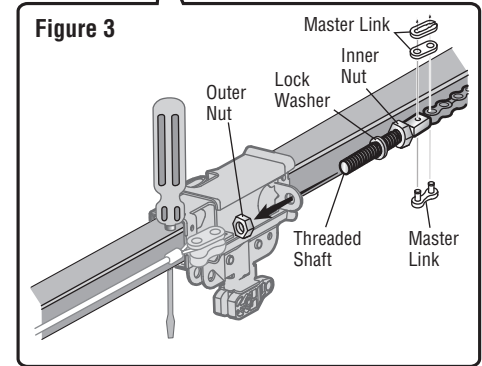

Figure 3
6. Insert the trolley threaded shaft through the hole in the trolley. Be sure the chain is not twisted. (Figure 3)